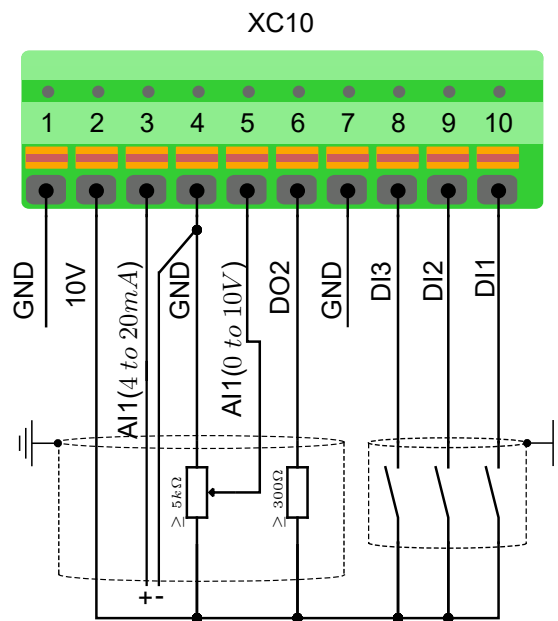

Figure B.1: XC10 connector signals
- **XC10:** to the speed command and reference through the analog and digital signs according to the connection schema from figure B.1. Table B.1 describes the pinout function.